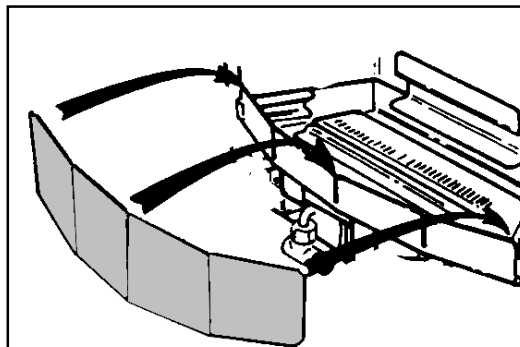

Figure 10. Burner Tray Trim
2. Fit the burner tray trim over the front rim of the burner tray. Push the trim fully down. See figure 10.